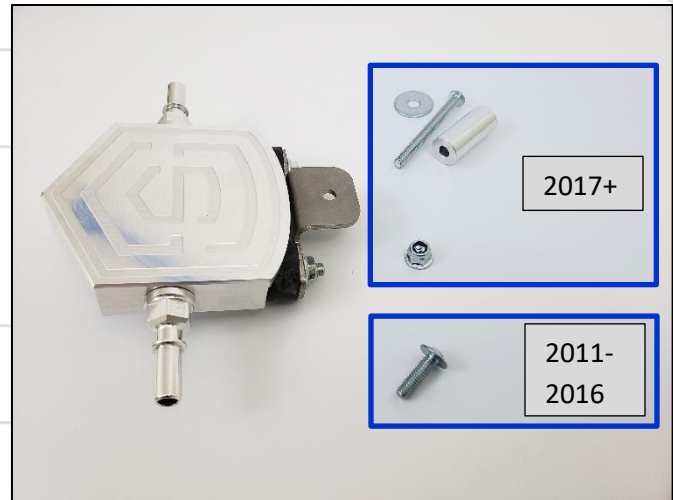

Figure 2: Model Year clarity for bracket to truck
4. Install the bracket and the serrated flanged nuts (Figure 2).